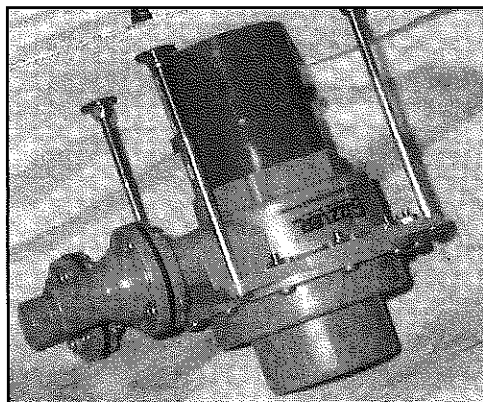

Figure 9. Pump on stand-off mount.
- Proceed with regular installation, following steps 2 through 9. (Figure 9.)